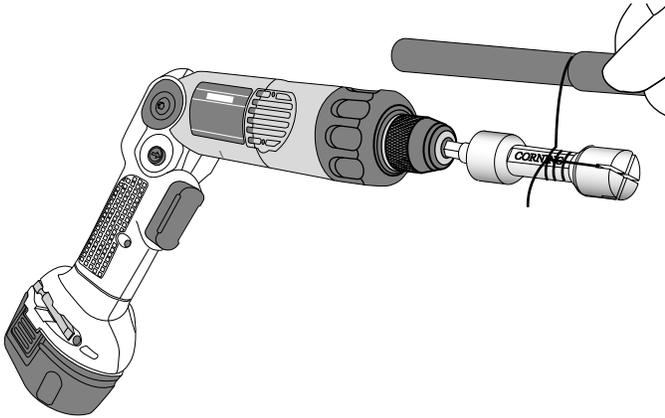

Figure 7
4.6 Lock the bit-end of the tool into the screwdriver, being careful not to turn on the screwdriver (Figure 7).